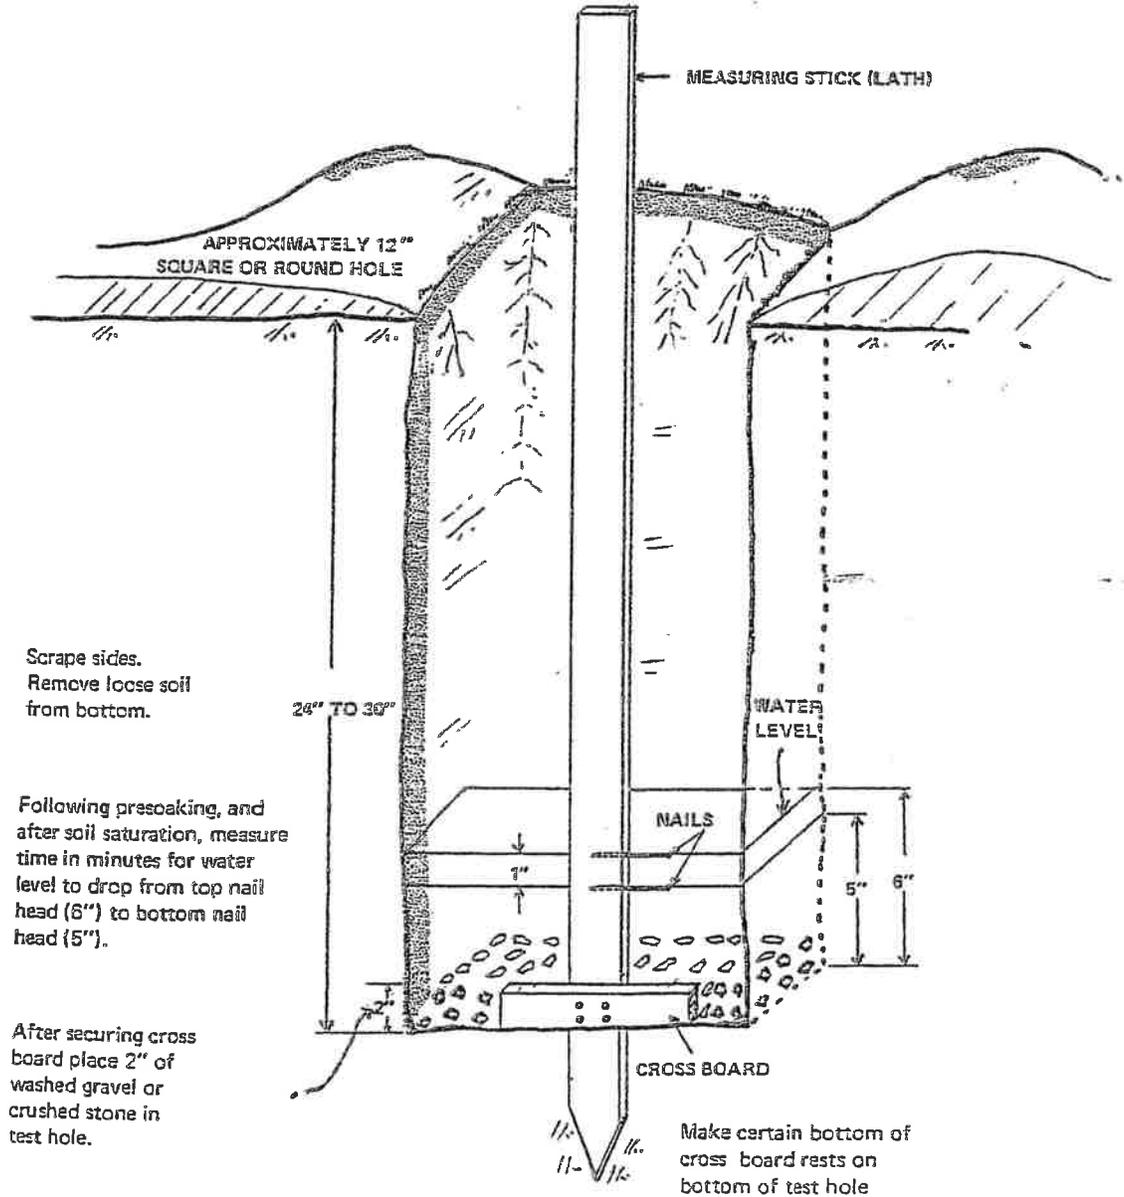

FIGURE 3
- a) Dig a hole with vertical sides and approximately 12 inches wide. If an absorption field is being considered, the depth of the percolation test hole should be 24" to 30 inches below the final ground surface. If a seepage pit is under consideration, percolation tests should be run at one-half the depth and at the full estimated depth of the seepage pit. In order to facilitate the running of the test and prevent cave-in, a larger excavation should be made for the upper portion of the hole with the actual percolation test hole in the bottom (Figure 3). It is necessary to place small stones in the bottom of the test hole to reduce scouring and sifting action when water is poured in the hole. Scrape the sides to eliminate smearing.